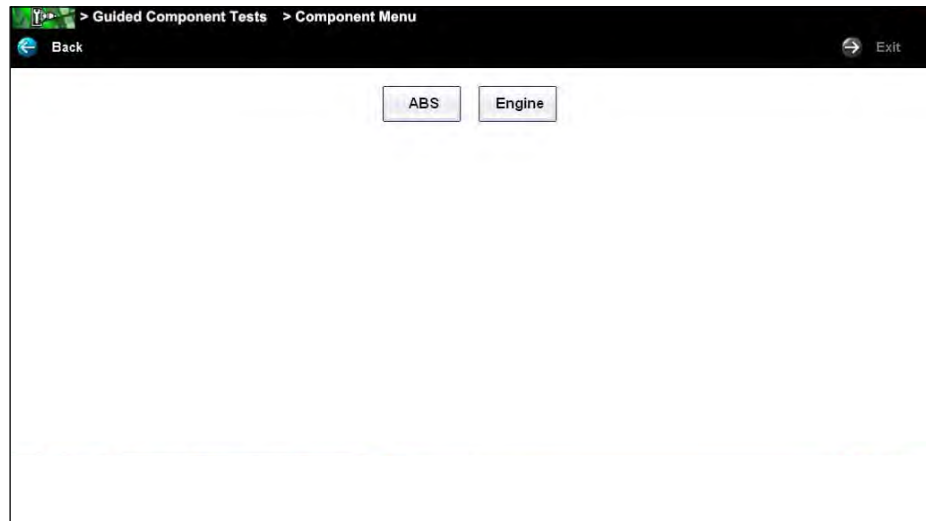

Figure 7-4 Sample available tests list
7. From the confirmation dialog box, select **OK** to continue, or **Cancel** to return to the engine list. A list of tests available for the identified vehicle displays (Figure 7-4).